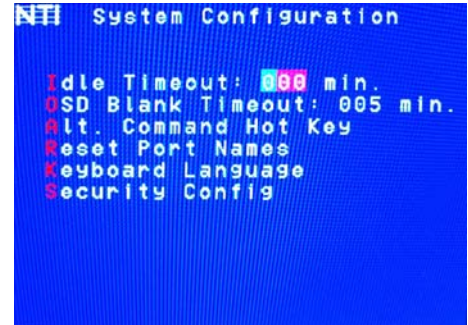

Figure 26- Change value of Idle Timeout
1. press  from the System Configuration menu (page 21) to display the pink edit field around the value (see Figure 26)